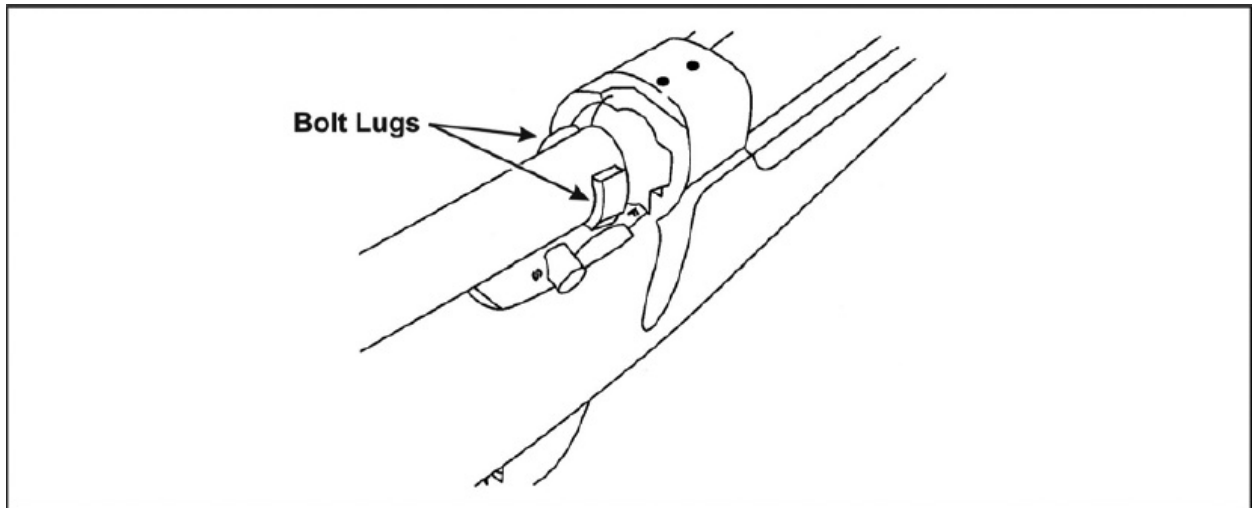

Figure 2-4. Bolt lugs aligned with the receiver
- To replace the bolt, ensure the safety is in the “S” position, align the lugs on the bolt assembly with the receiver (Figure 2-4), slide the bolt all the way into the receiver, and then push the bolt handle down.